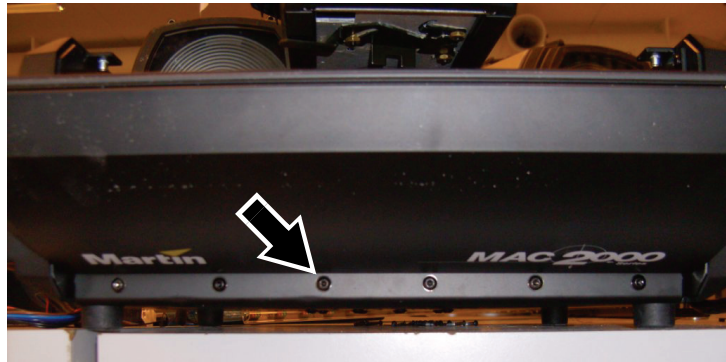

Figure 4
39. Reinstall the third screw from the left in the bottom of the base on the ballast side (see Figure 4).